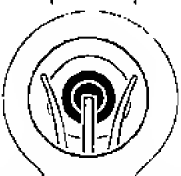

FIGURE 7
4. Focus on tip of front sight, not on target. (See Figure 7)
5. Aim by aligning target with front and rear sights. (See "Tips on Aiming" and Figure 7.)